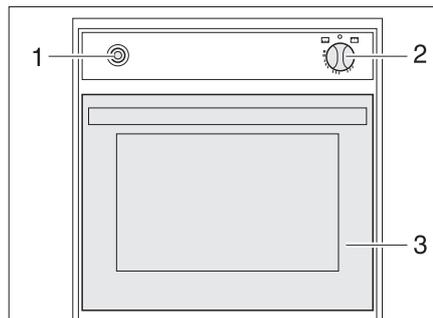

Fig. 140 Gas oven
- Fully open the oven flap (Fig. 140,3).
- Lightly press control knob (Fig. 140,2) and set to "🔥" (oven) or "GRILL" (grill).
- Press the control knob (Fig. 140,2) and hold it down for 5 to 10 seconds. Gas will stream into the burner.
- Press the ignition switch (Fig. 140,1) repeatedly until there is a flame.
- Turn the control knob (Fig. 140,2) to "0". The flame fades.